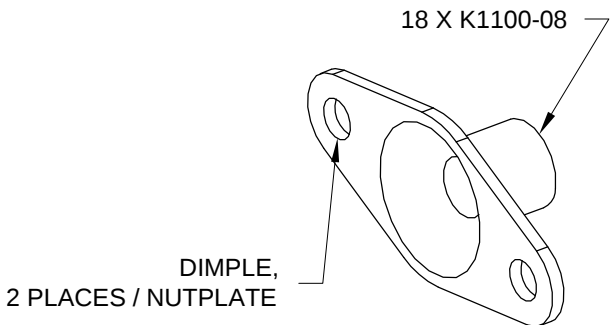

**FIGURE 2:
Step 7: Dimple the nutplate attach rivet holes in the VS-1201 Main Skin using a 3/32 dimple die as called out in Figure 2, Detail B.